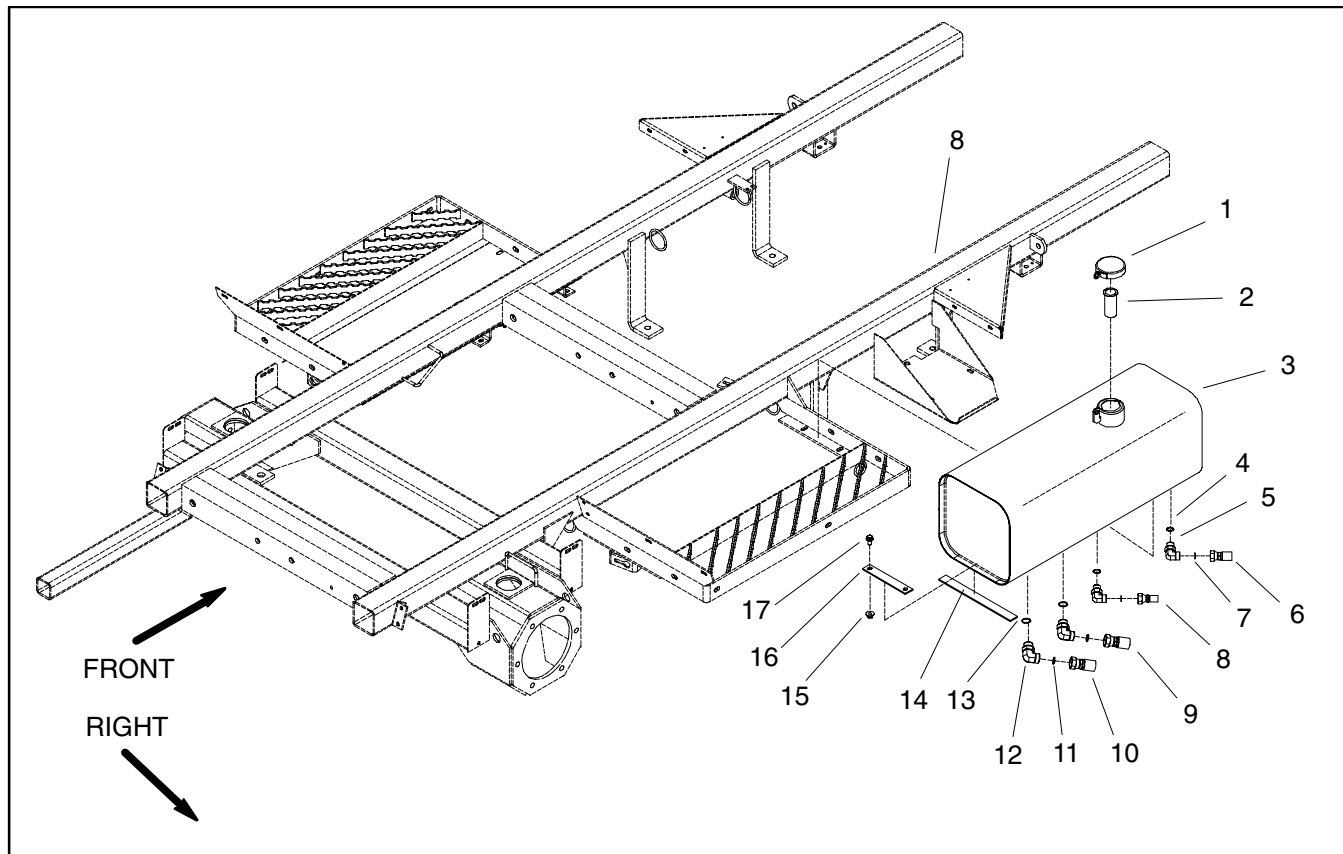

Figure 55
Removal (Fig. 55)
5. Remove hydraulic reservoir from machine using Figure 55 as a guide.
Installation (Fig. 55)
1. Install hydraulic reservoir to machine using Figure 55 as a guide.